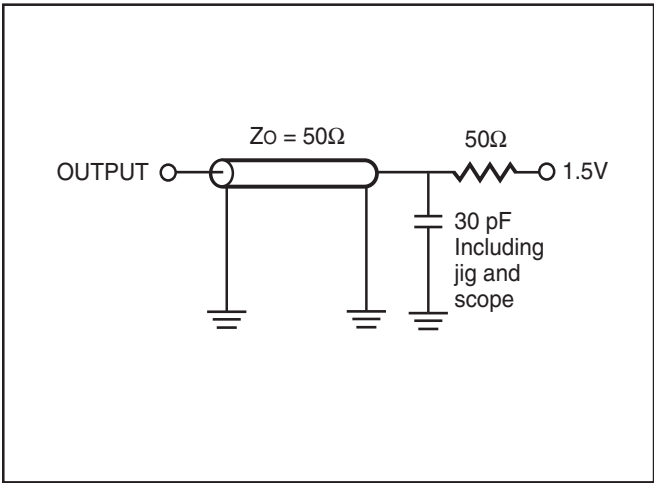

Figure 1
Output Load	See Figures 1 and 2
- Test conditions assume signal transition times of 3 ns or less, timing reference levels of 1.5V, input pulse levels of 0V to 3.0V and output loading specified in Figure 1.
1. Test conditions assume signal transition times of 3 ns or less, timing reference levels of 1.5V, input pulse levels of 0V to 3.0V and output loading specified in Figure 1.